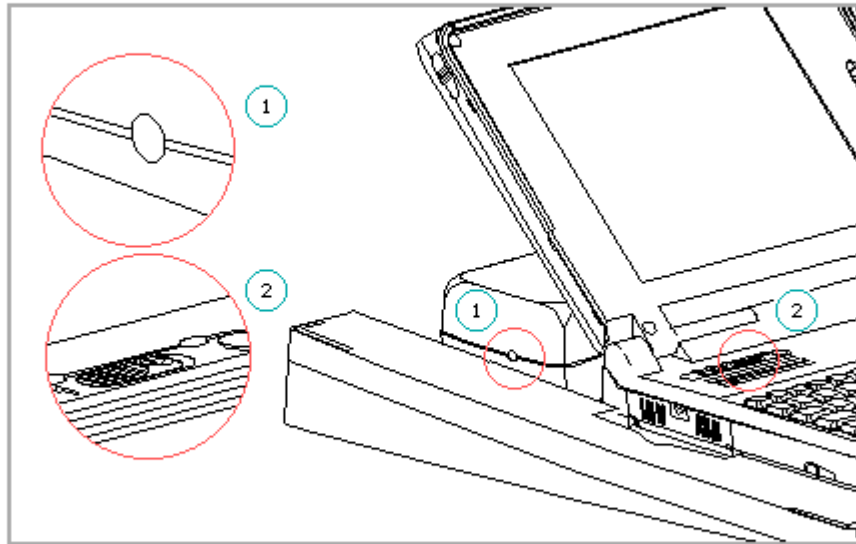

Figure D-17. Computer Power Switch and Compaq MiniStation Convenience Base Power Button
11. Turn on the system, using either the convenience base power button [1] or the computer power switch [2] (Figure D-17).